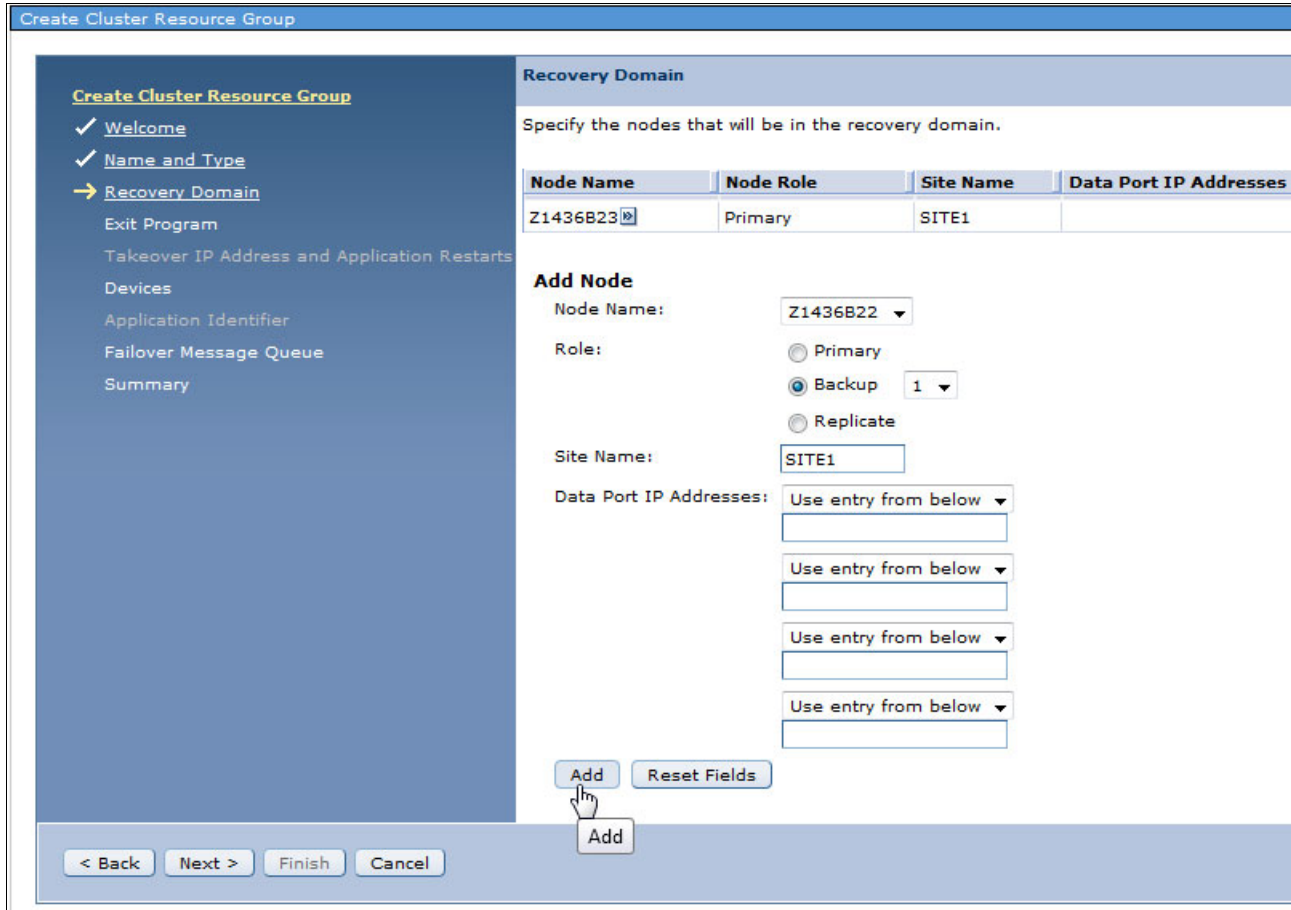

Figure 4-25 Create Cluster Resource Group, recovery domain for the backup node
22. Add the secondary node into the recovery domain. Specify Backup as the role. Ensure that the site name you provide here is identical to the site name that you provided for the primary node, as shown in Figure 4-25 on page 121. Click **Add** to add the node into the recovery domain.